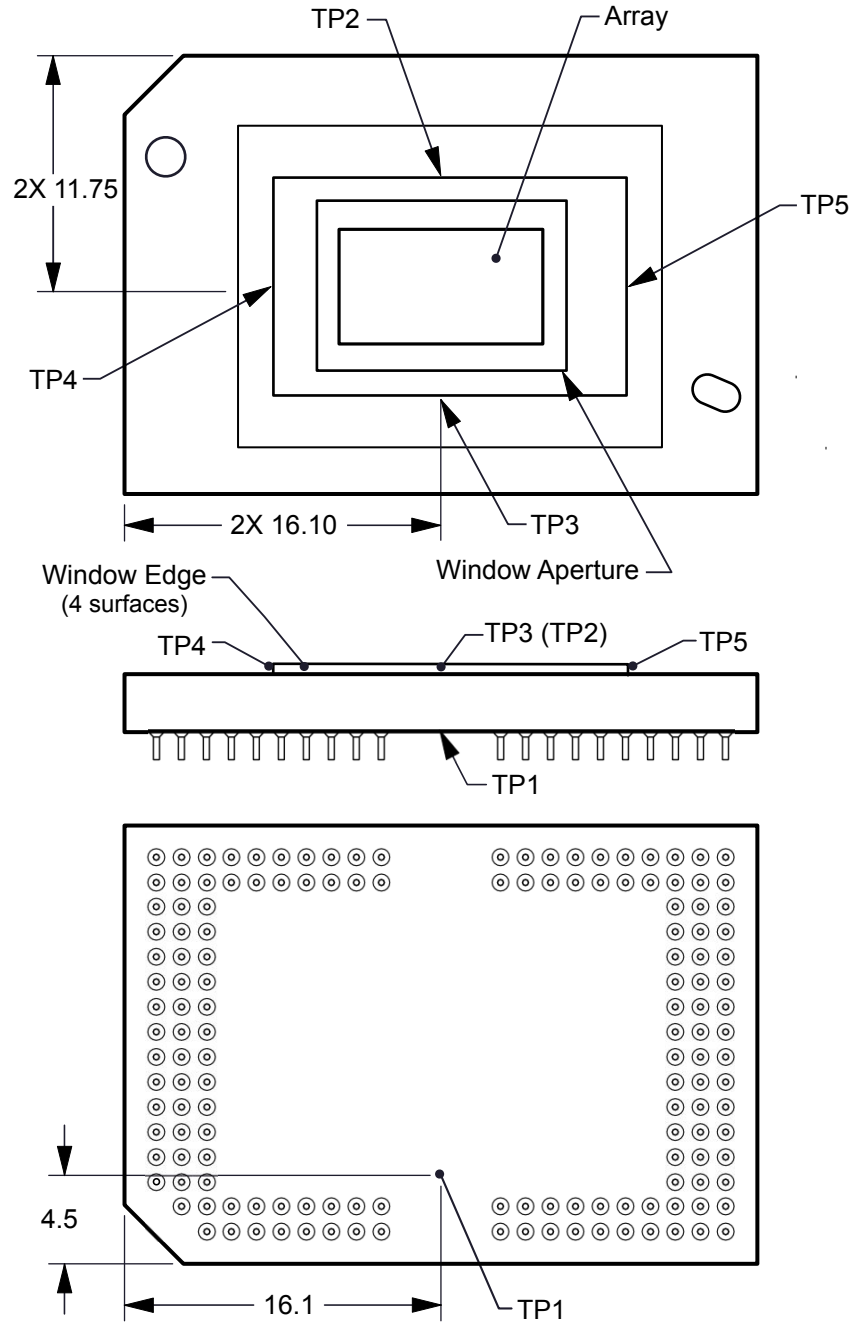

图 6-1. DMD Thermal Test Points
Micromirror array temperature cannot be measured directly, therefore it must be computed analytically from measurement points on the outside of the package, the package thermal resistance, the electrical power, and the illumination heat load. The following equations show the relationship between array temperature and the reference ceramic temperature, thermal test TP1 图 6-1 shown above:
- T_{CERAMIC} = Measured ceramic temperature ($^{\circ}\text{C}$), TP1 图 6-1
- $R_{\text{ARRAY-TO-CERAMIC}}$ = Thermal resistance of package specified in 节 5.5 from array to ceramic TP1 图 6-1 ($^{\circ}\text{C}/\text{W}$).
- Q_{ARRAY} = Total DMD Power (electrical + absorbed) on array (W).
- $Q_{\text{ELECTRICAL}}$ = Nominal electrical power (W)
- Q_{INCIDENT} = Incident illumination optical power (W)
- $Q_{\text{ILLUMINATION}}$ = (DMD average thermal absorptivity \times Q_{INCIDENT}) (W)